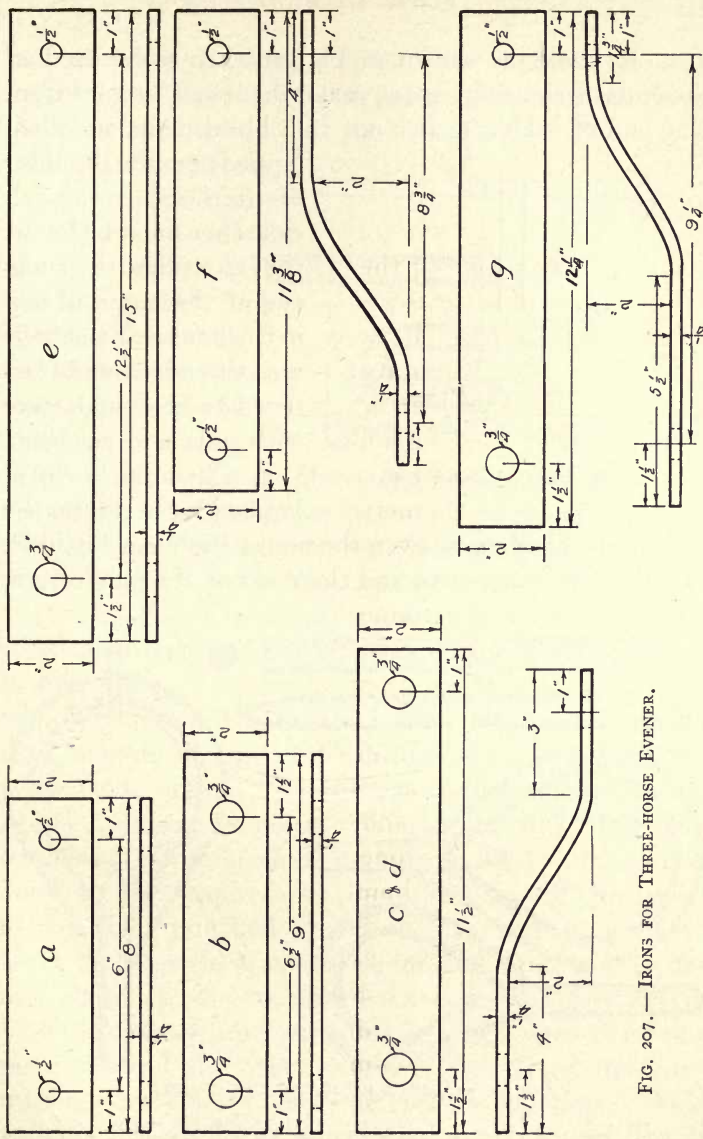

FIG. 207.—IRONS FOR THREE-HORSE EVENER.
1. The irons for the three-horse evener are $\frac{1}{4}$ " thick and 2" wide. Each of the four that connect the singletrees to the doubletree is represented by *a*, Fig. 207. They are 8" long. The holes, which are $\frac{1}{2}$ " in diameter, are 6" apart. The irons connecting the doubletree to one end of the evener are represented by *b*, *c*, and *d*. *b* is 9" long; and the holes, which are $\frac{3}{4}$ " in diameter, are $6\frac{1}{2}$ " apart. *c* and *d* are $11\frac{1}{2}$ " long; and the holes, which are $\frac{3}{4}$ " in diameter, are 9" apart. These two irons are bent in a reverse curve 4" from one end and 3" from the other end; and the amount of the offset is 2". Irons *e* and *f* and *g* connect one singletree to the other end of the evener. *e* is 15" long; and the holes are $12\frac{1}{2}$ " apart. One of them is $\frac{3}{4}$ " in diameter and the other is $\frac{1}{2}$ " in diameter. *f* is $11\frac{3}{8}$ " long; and the holes, both of which are $\frac{1}{2}$ " in diameter, are $9\frac{3}{8}$ " apart. This iron is bent in a reverse curve 2" from one end and 4" from the other end; and the offset is 2". *g* is $12\frac{1}{4}$ " long; and the holes, one of which is $\frac{3}{4}$ " in diameter and the other $\frac{1}{2}$ " in diameter, are $9\frac{3}{4}$ " apart. This is bent in a reverse curve $5\frac{1}{2}$ " from one end and $1\frac{3}{4}$ " from the other end; and offset is 2".